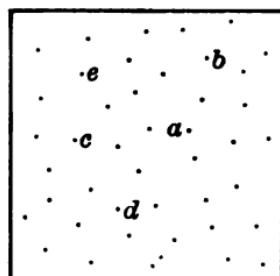

FIG. 3
7. States of Matter explained. — With these ideas in mind, a new explanation of the different states of matter at once presents itself. *Solids* may be regarded as those substances whose molecules do not move about freely or change their positions with relation to each other. To explain more fully: suppose *a*, *b*, *c*, *d*, and *e* (Fig. 3) to represent some of the molecules in a solid. Now while these may all vibrate constantly, moving to and fro, none of them, *a* for example, will change its position among the others by traveling to a new place, as *e* for example. It is because their molecules always stay in the same position among the rest that solid substances retain their shape.